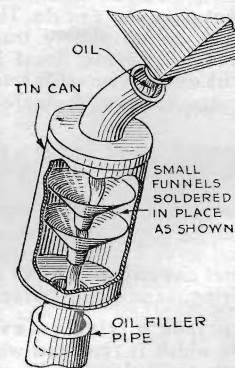

Fig. 5. Tin can with funnels in it makes baffle to catch waste oil
**ON SOME** cars, especially if the piston rings are not as tight as they might be, the gases escaping from the oil filling pipe carry a certain amount of oil in fine drops. This oil gets all over the engine and also represents a waste. Figure 5, at right, shows a simple type of home baffle arrangement that will serve to catch the droplets of oil and return the waste to the crankcase. It is made from a tin can of suitable size into which have been soldered two or more cheap tin funnels as shown in the illustration.